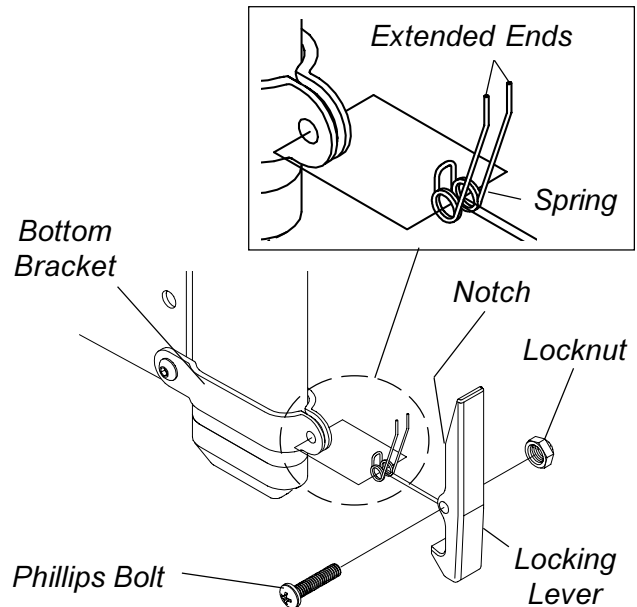

FIGURE 9 - REPLACING THE LOCKING LEVER - T-ARMS
REPLACING THE LOCKING LEVER - T-ARMS (FIGURE 9)
4. Position the spring on the bottom bracket as shown in **FIGURE 9**.